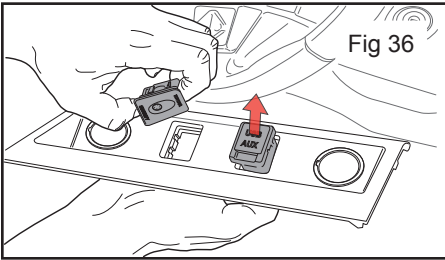
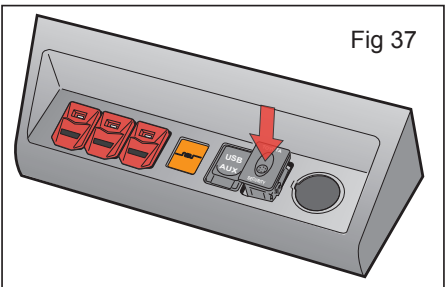

Fig 36
Fig 37
30. Pop out your Cigarette/USB panel using plastic trim tool. Work around outer panel work the pop clips out. (Figure 36)
31. Pull OEM Panel Out as Shown in (Figure 36). Pull out Switch Knockouts. On (Figure 37) you will insert the factory components into the NSV Lightbar Switch Panel.
32. (Figure 37) Shows the new NSV switch panel with your factory components added.